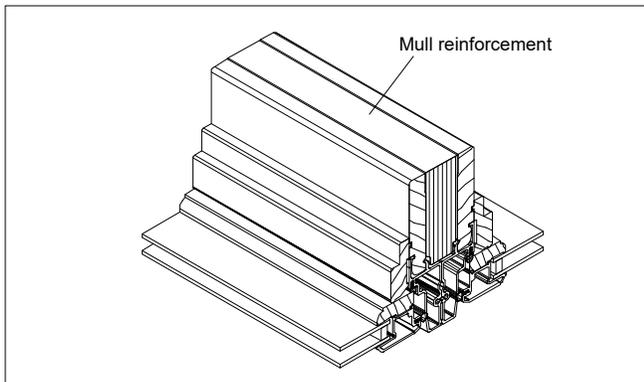

Figure 8
- Insert mullion reinforcement board between frames and fasten to interior wood frame member with 1/2" x 1/2" 16 gauge staples spaced every 4" (102). See figure 8.